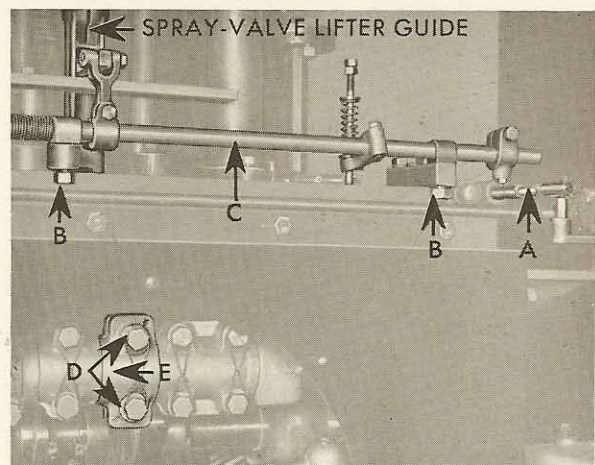

FIGURE 17-13
Remove governor linkage to the wedge shaft (A) and bearing block nuts (B) from all wedge shaft bearings. Remove wedge shaft (C) and two cap screws which hold the spray valve lifter guide to the centerframe. Remove the two cap screws marked (D) which will release the fuel latch (E). All these references will be found in Figure 17-13. Remove the latch, allowing the spray valve lifter to rest on the camshaft.